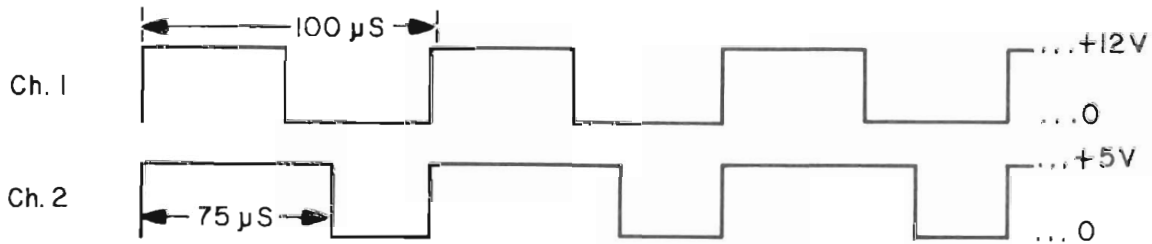

Figure 9-3 Cellular Pulse - Width Calibration
- Trigger on positive edge of Channel 1 signal. Adjust R6555 so that duration of positive pulse on Channel 2 is 75  $\mu$ S. (See Figure 9-3).